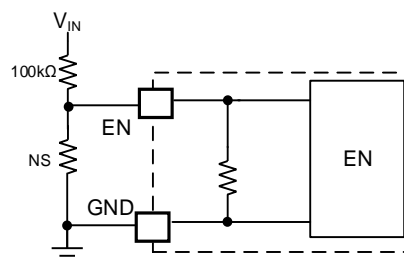

Figure 6: EN Connection
The MP4248 has an enable (EN) control pin. Pull EN high to enable the IC. Pull EN low or float EN to disable the IC (see Figure 6).